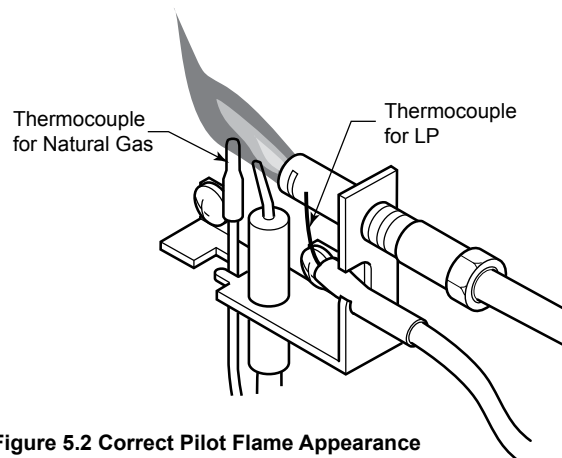

Figure 5.2 Correct Pilot Flame Appearance
- Inspect pilot flame pattern and strength. See Figure 5.2 and 5.3 for proper pilot flame pattern. Clean or replace orifice spud as necessary.